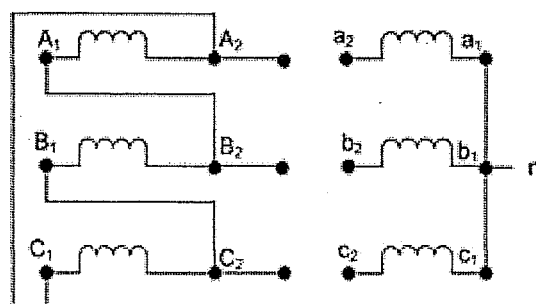

Figure Q2
- c) Figure Q2 shows the winding connections of a three phase transformer. Draw the phasor diagram to show the EMFs in windings and determine the phase shift between primary and secondary EMF [6 marks]